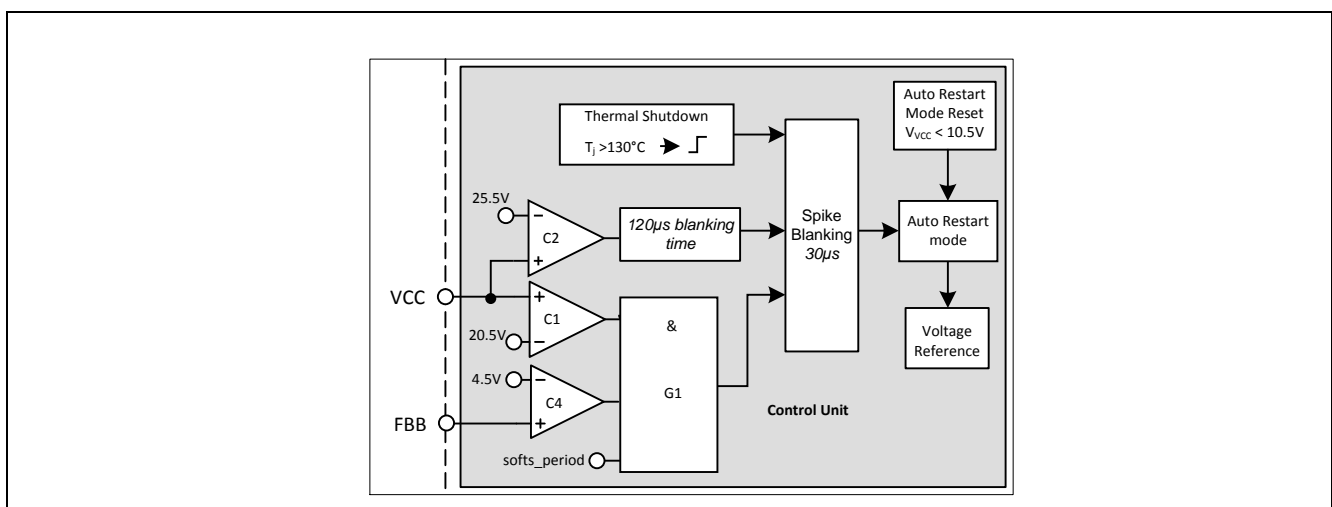

Figure 30: Vcc OVP and OTP
Vcc OVP (1) condition is when VVCC voltage is > 20.5V, VFBB voltage is > 4.5V and during soft start period, the IC enters into odd skip Auto Restart Mode. This condition likely happens during start up at open loop fault (Figure 30).
VCC OVP (2) condition is when VCC voltage is > 25.5V, the IC enters into odd skip Auto Restart Mode (Figure 30).
The over temperature protection OTP is sensed inside the controller IC. The Thermal Shutdown block keeps on monitoring the junction temperature of the controller. After detecting a junction temperature higher than 130°C, the IC will enter into the non switch Auto Restart mode. The ICE3AR0680VJZ has also implemented with a 50°C hysteresis. That means the IC can only be recovered when the controller junction temperature is dropped 50°C lower than the over temperature trigger point (Figure 30).